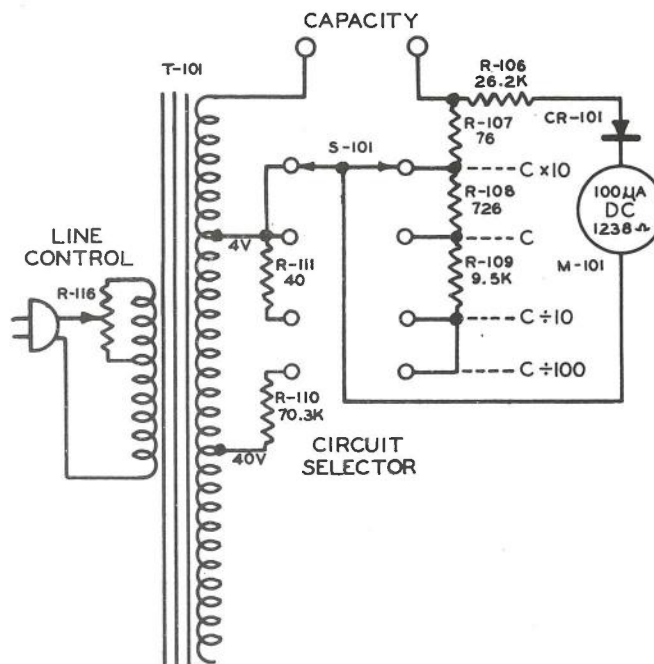

Figure 2-2. Simplified Schematic, Capacity Meter Section of Tube Tester
(e) Connects the indicating meter into the capacity meter network, as shown in the simplified schematic (figure 2-2), and is used on four positions to select the required capacity range. The switch is so designed that the Tube Tester transformer will be energized on all switch positions except the first position marked OFF.
c. CAPACITY METER SECTION OF TUBE TESTER TV-4/U. (See figure 2-2.) - In this section of the Tube Tester, the circuit on each range consists of an AC potential supplied by one of the transformer windings and applied through a series resistance and an instrument shunt network to the capacity jacks which in turn are connected across the capacitor under test. Effectively, the instrument operates as an AC milliammeter indicating the impedance of the capacitor under fixed applied voltage conditions. A current limiting series resistor (the instrument network resistance on large capacity ranges) is used on each range; so that the capacity meter operates very much like a conventional series ohmmeter. By short circuiting the test leads, the LINE CONTROL (R-116) can be rotated, adjusting the applied potential for a full scale deflection of the milliammeter pointer. This is equivalent to zero external impedance or infinite capacitance. The insertion of a capacity between the test leads will then increase the impedance of the circuit causing the meter to deflect a given amount for each capacitance. This capacitance is calibrated directly on the dial for a 60 cycle power supply.